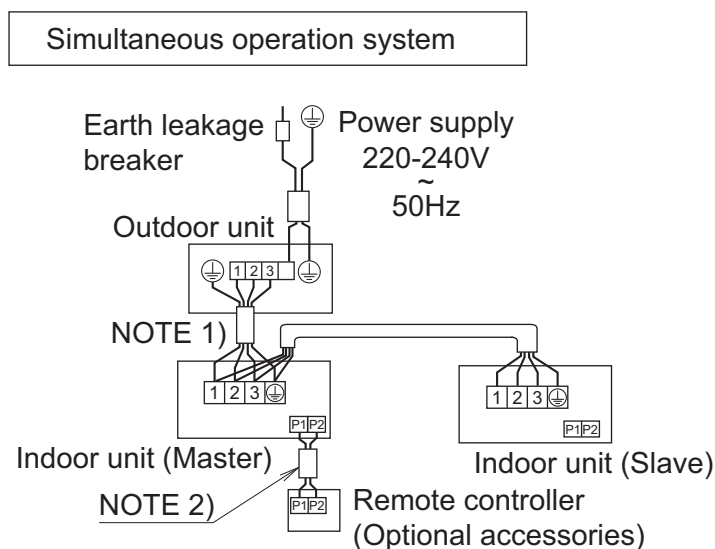

Fig. 41
- **Simultaneous operation system:** 1 remote controller controls 2 indoor units (2 indoor units operates equally). (Refer to Fig. 41)